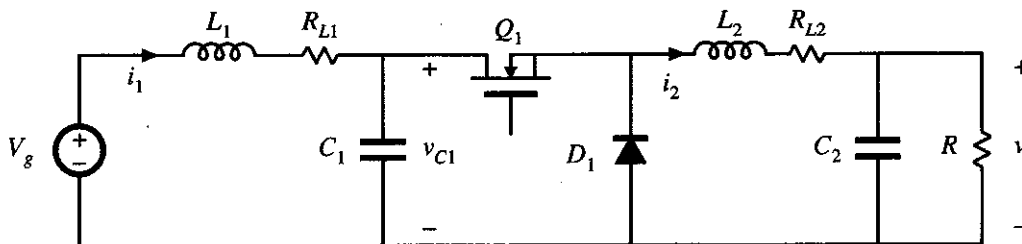

Fig. 3.30.
- 3.3 To reduce the switching harmonics present in the input current of a certain buck converter, an input filter is added as shown in Fig. 3.30. Inductors  $L_1$  and  $L_2$  contain winding resistances  $R_{L1}$  and  $R_{L2}$ , respectively. The MOSFET has on-resistance  $R_{on}$ , and the diode forward voltage drop can be modeled by a constant voltage  $V_D$  plus a resistor  $R_D$ . All other losses can be ignored.
Converter circuit, Fig. 3.30: